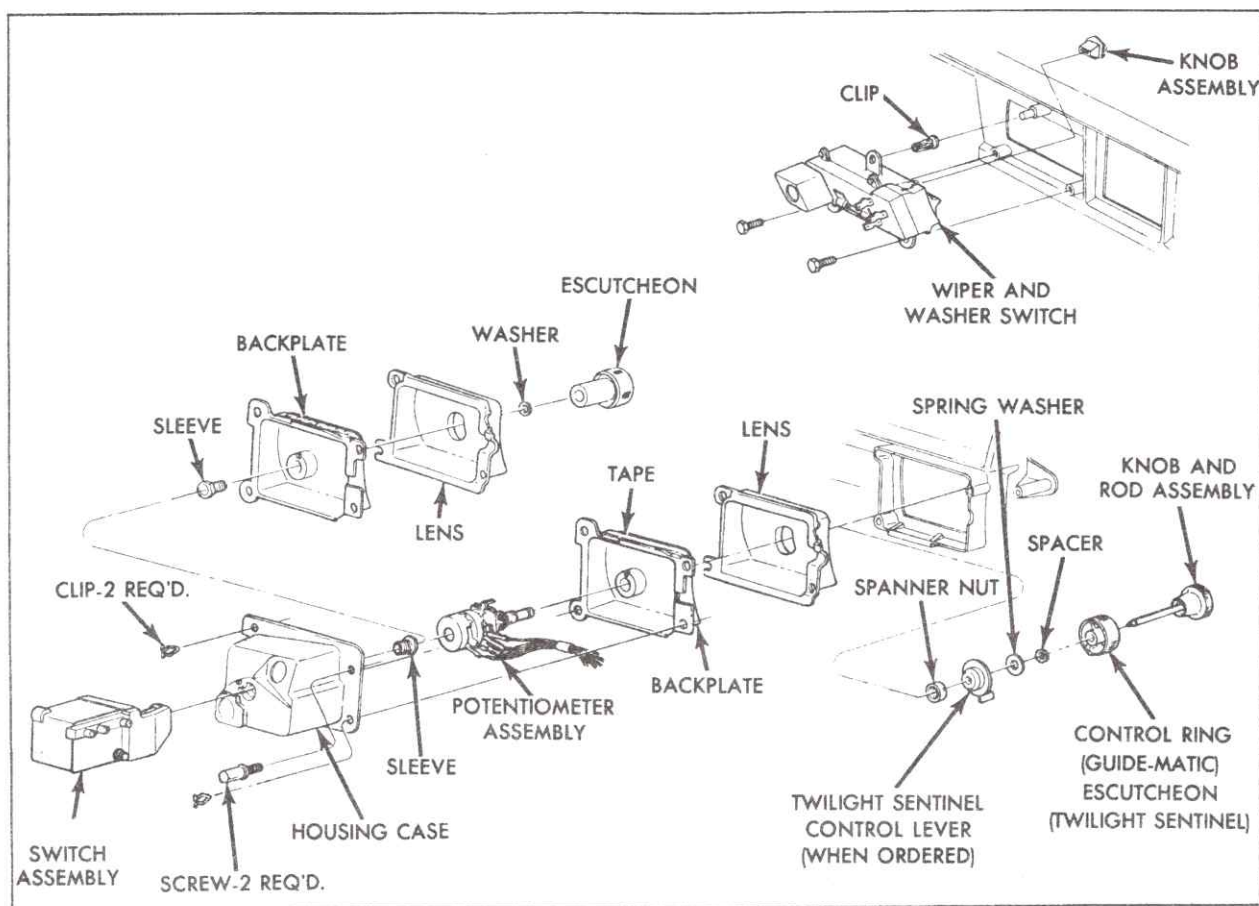

Fig. 12-41 Instrument Panel - Perspective 3
3. Remove lower right screw securing headlight control switch housing to lower instrument panel, Fig. 12-41.
5. Remove upper left screw securing headlight control switch housing to lower instrument panel, Fig. 12-41.
2. Position headlight control switch housing on lower instrument panel and install lower right special screw with 3/4" head, Fig. 12-41.
3. Install special screw with 3/4" long head securing upper left corner of headlight control switch housing to lower instrument panel, Fig. 12-41.
**44. Headlight Switch (Fig. 12-41)****a. Removal**
### 45. Headlight Switch Housing—Without Guide-Matic and/or Twilight Sentinel (Fig. 12-41)
### 46. Guide-Matic or Twilight Sentinel Control Switch (Fig. 12-41)